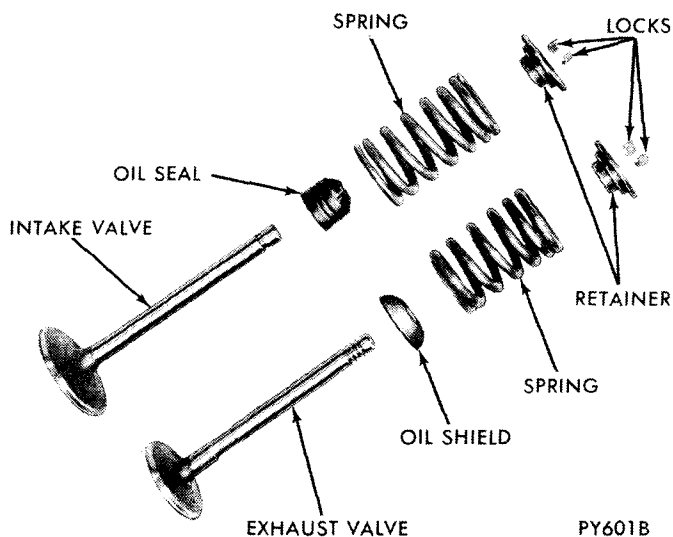

Fig. 14—Valve Assembly (Disassembled View)
(1) Coat valve stems with lubricating oil and insert them in position in cylinder head.
(2) Install new cup seals on the intake and exhaust valve stems and over valve guides (Figs. 14 and 15) and install valve springs and retainers.